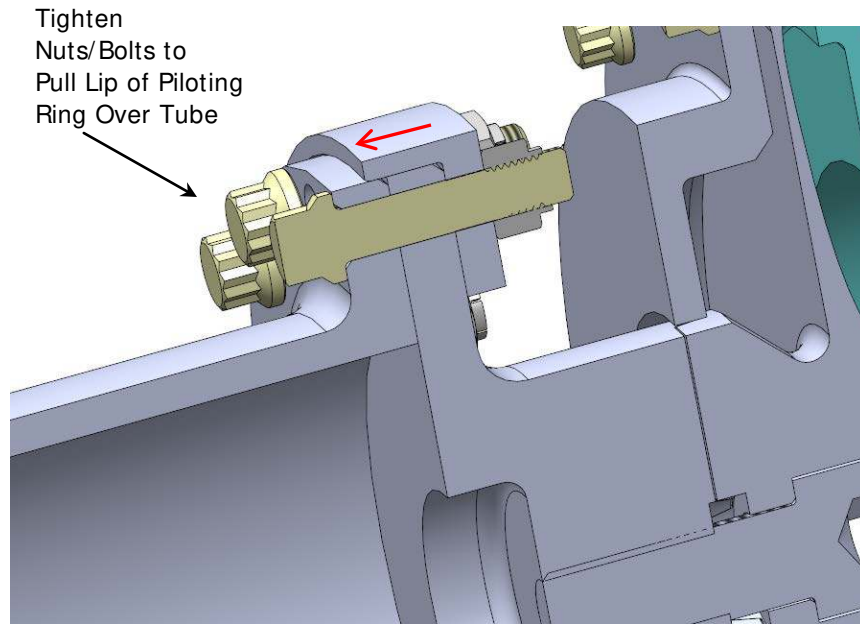

Figure 13 – Piloting Ring Fit Over Tube OD
4.2.3 While supporting the weight of the tube, tighten the bolts/nuts a few turns at a time in a criss-cross pattern to draw the piloting ring over the tube flange evenly (see Figure 13). Install the remaining bolts and nuts and torque evenly in a criss-cross pattern to the torque shown on drawing HC-6576.